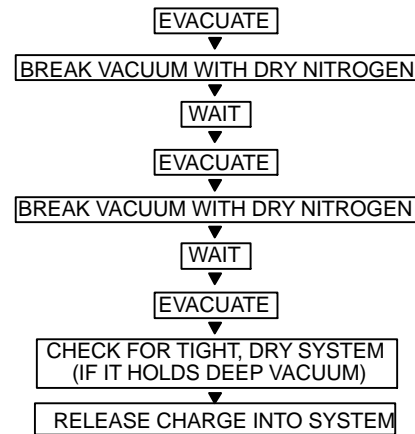

Fig. 16 — Triple Evacuation Method
The triple evacuation method should be used. Refer to Fig. 16 and proceed as follows:
5. Repeat this procedure as indicated in Fig. 16. System will then be free of any contaminants and water vapor.